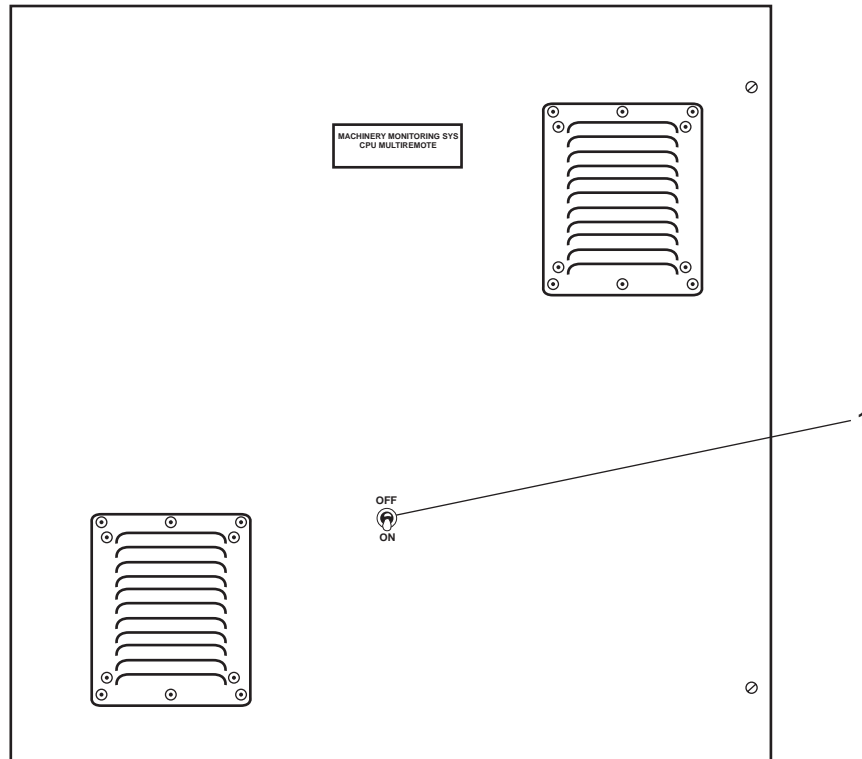

Figure 10. Machinery Monitoring System CPU Multi-Remote Panel
- j. In the engine room on the aft bulkhead of the EOS, set to ON the switch (figure 10, item 1) on the machinery monitoring system CPU multi-remote panel.